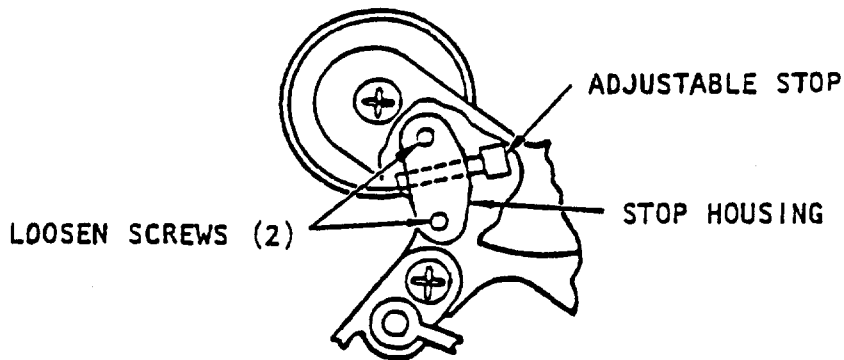

Figure 208 - Maximum Reverse RPM Stop Adjustment
- (6) Stabilize the engine at idle (46% N1 RPM) for 30 seconds.
- (7) Raise the reverse lever while manually lifting the reverse idle stop lever to allow the reverse lever to be pulled to the "Max Reverse" position to obtain 97.5% N1 RPM.
- (8) Stabilize at "Max Reverse" position for 30 seconds and adjust max reverse RPM stop (see Figure 208) by loosening the two holding screws on the main throttle lever and while holding the stop housing, adjust the stop to contact the actuation link assembly and retighten stop housing screws.
- (9) Return reverse lever to "Reverse Idle" position and allow the engine to stabilize for two minutes.
- (10) Repeat Steps (6) through (9) checking to ensure that when the reverse lever contacts the "Max Reverse" stop that 97.5% N1 RPM is obtained. Readjust stop as required.